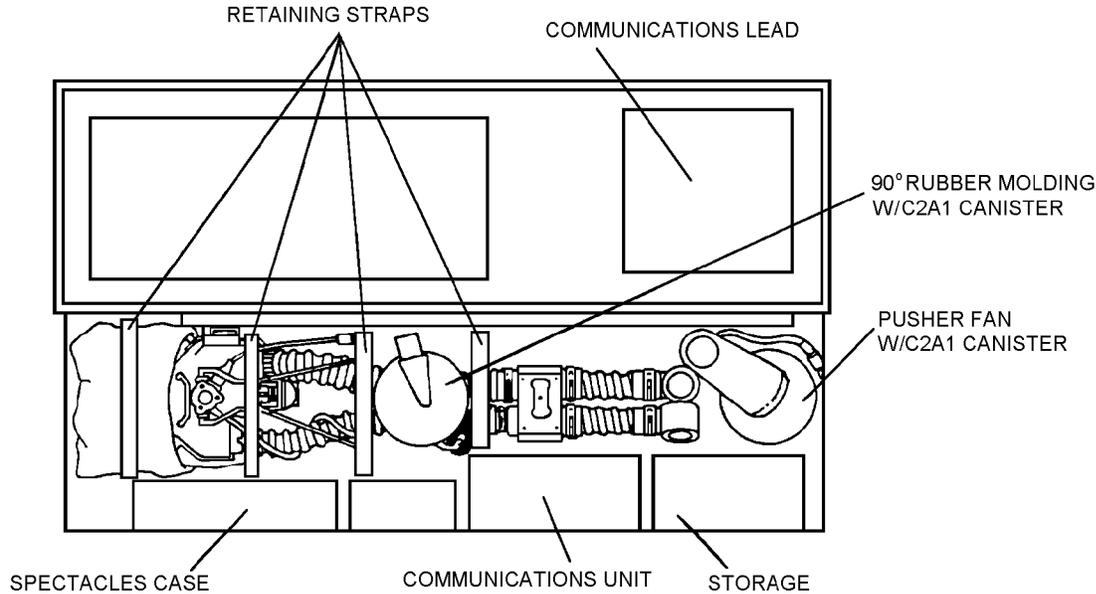

Figure 4-33. Transit Case
**4-53. Transit Case.** The transit case, (figure 4-33), which is provided as a means of protection for the mask, seat kit hose and regulator, pusher fan with canister, 90° rubber molding with canister, intercommunication unit, fitting frames, intercom cord, drink facility, optional skullcap, sweatband, or talc powder, during transit or storage is common to all respirator assemblies presented in the chapter.